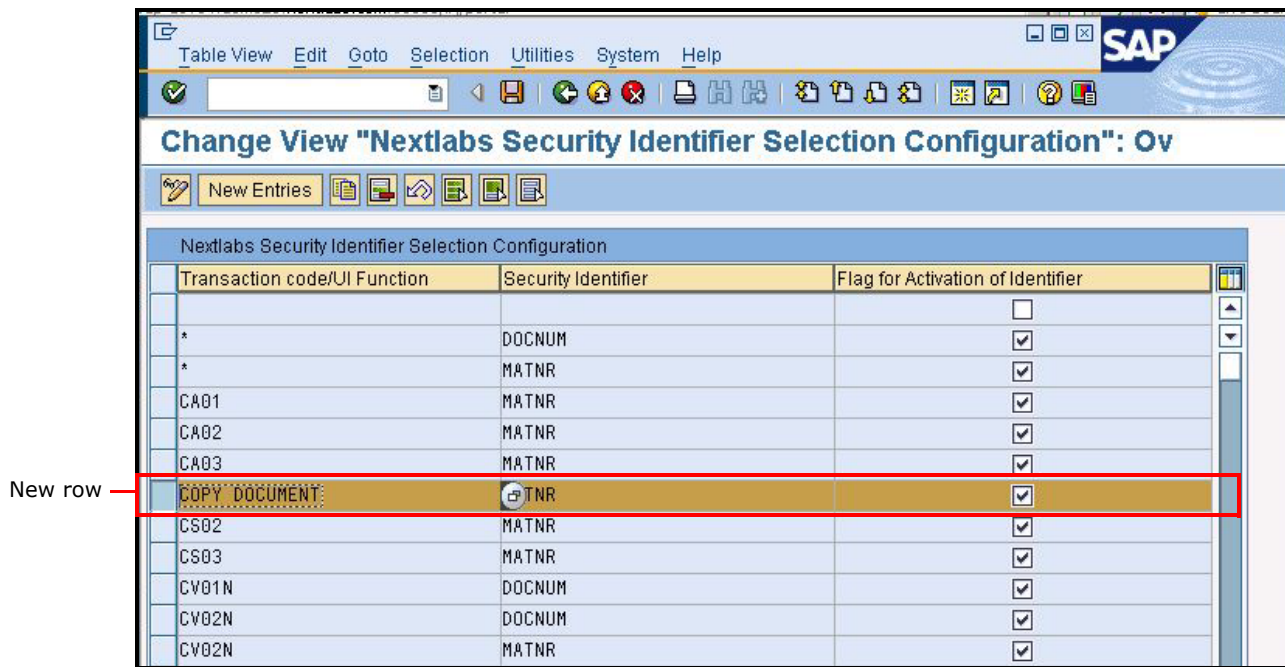

Figure 4-48: New entries in the Security Classification Selection Configuration screen
- 8 When you finish entering activation settings, click **Save** and return to the *NextLabs Security Classification Selection* screen. Each new activation record you created appears as a new row, as shown in Figure 4-48.